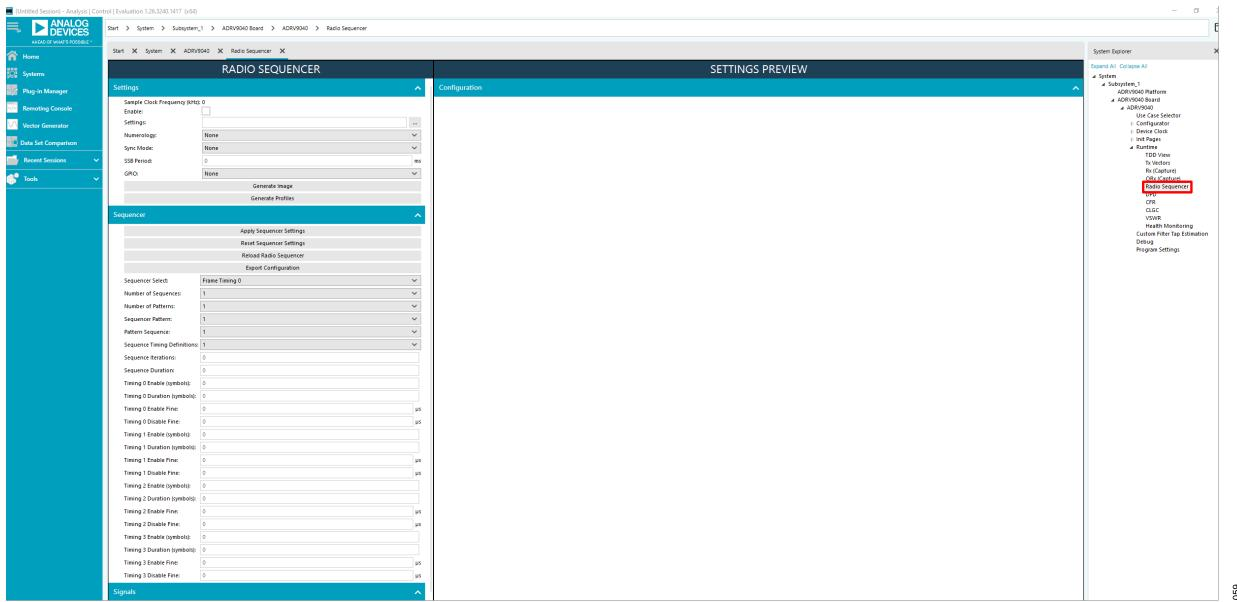

Figure 60. Radio Sequencer Timing Settings
5. Add the desired timing definition values into the input boxes as shown in Figure 60.
6. Select the signals that are controlled by the selected sequencer in the **Signals** section as shown in Figure 60.